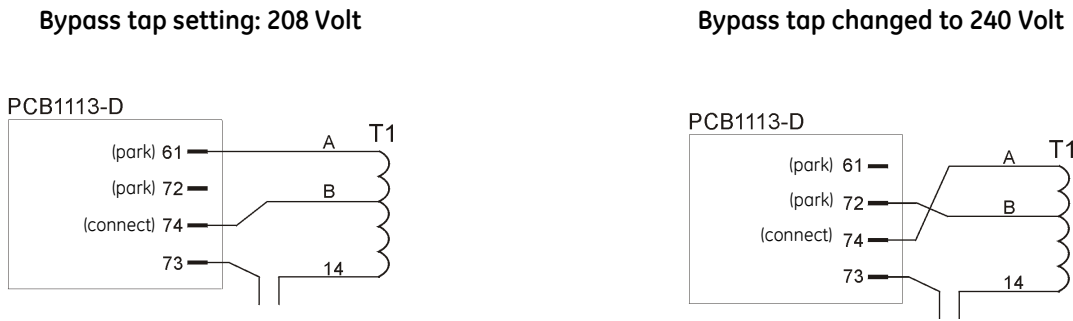

Figure 8. LP11 924 6&10 kVA: Bypass tap change
2. The bypass tap setting should be set as 240VAC. To confirm this check the following as per fig.8 and 8a.
1. Input voltage is 208Vac. In this case the bypass tap on the output transformer must be set as 208VAC. Please refer to fig. 8 and 8a. Proceed as follows
2. Input voltage is 240Vac. In this case the bypass tap on the output transformer must be set as 240VAC. Please refer to fig. 8 and 8a. Proceed as follows: